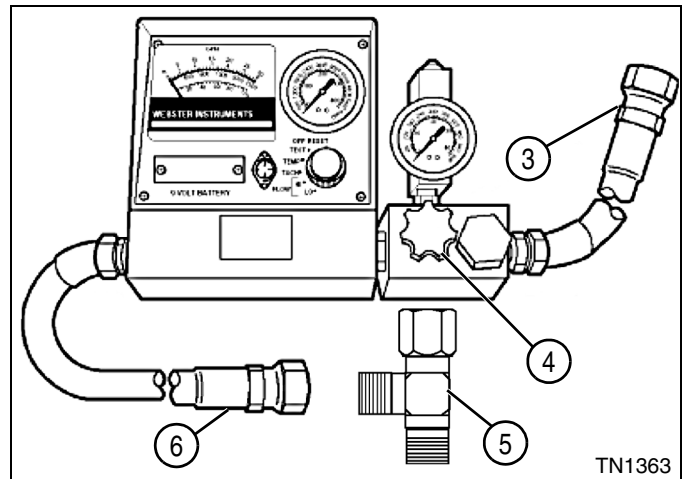

Figure 6-35
4. Before performing this test perform lift system test. Leave flow meter connected as outlined in lift system test. Install blocking disk between hose (2) and tee fitting (5). (See "Lift System Test" on page 6-41.)
5. Open flow meter valve (4) completely. (See Figure 6-35.)